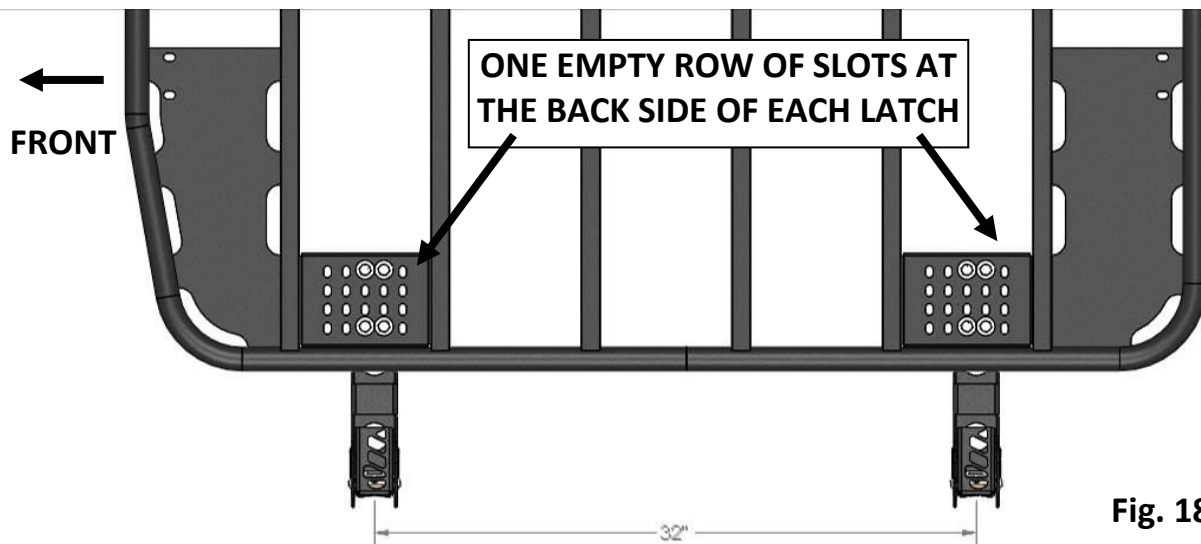

Fig. 18
- a. Attach a latch to each of the four mounting buckets of the platform using four 3/8" x 1" Hex bolts, eight washers, and four 3/8" Nyloc nuts per latch as shown below in **Figure 18**. Install the hardware, but do not fully tighten at this time. Tighten the hardware enough to hold the latch close to the platform mounting bucket, but loose enough to slide around slightly. You can choose the orientation of the platform based on your preference. **Figure 18** shows the platform orientation with the angled bars forward, you can position the platform with the angled bars toward the rear but the same latch placement will apply. When using the optional front platform (Warrior Part # 10103) the most appealing orientation is to have the straight bars of both platforms adjacent to each other in the center of the rack. The latches may be positioned in various configurations if you find a need to change due to your specific application, however, the configuration shown below in **Figure 18** is recommended.